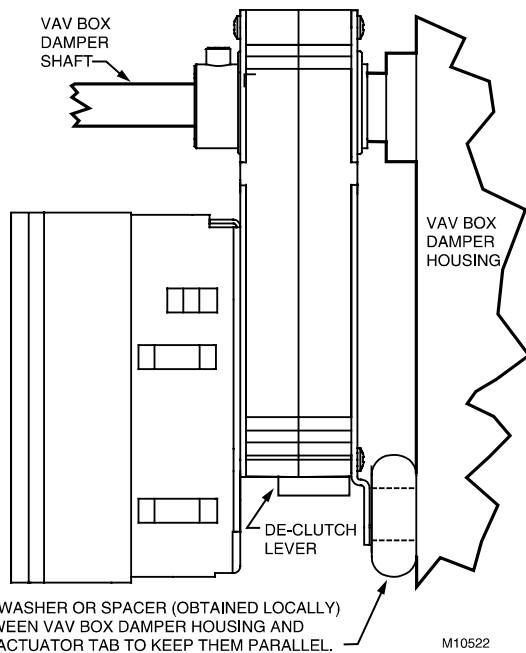

Fig. 4. Mounting W7751H to VAV box damper housing when actuator is not parallel to VAV box damper housing.
The W7751H actuator is shipped in the fully clockwise (CW) position (90 degree). The W7751H Assembly must be mounted to a horizontal damper shaft to assure proper heat dissipation from the controller housing. Mount the W7751H so that the actuator is parallel with the VAV box damper housing. In general, it is recommended that a washer or spacer be added between the VAV box damper housing and the actuator mounting tab to keep them parallel. See Fig. 4.